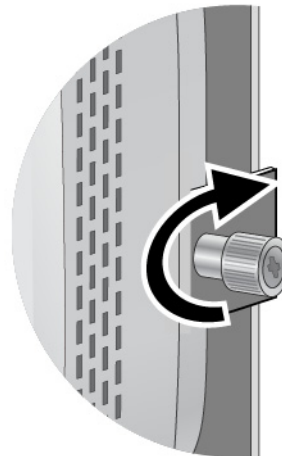

Figure 20. Tightening the Mounting Bracket Thumbscrew
3. Tighten the thumbscrew to secure the access point to the mounting bracket. Refer to Figure 20.